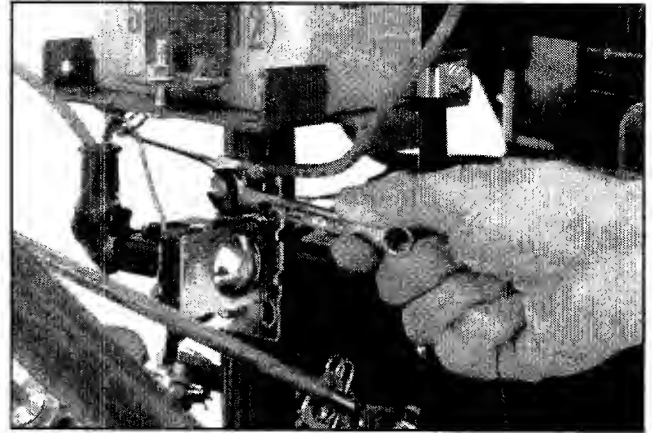

Figure 2-22: Check tightness of upper mounting screw.
4. Check the tightness of the upper mounting screw that secures the negative cable and starter solenoid to the battery post. See Figure 2-22. Scrape away any paint between the cable and the screw as the paint can prevent a good electrical ground.